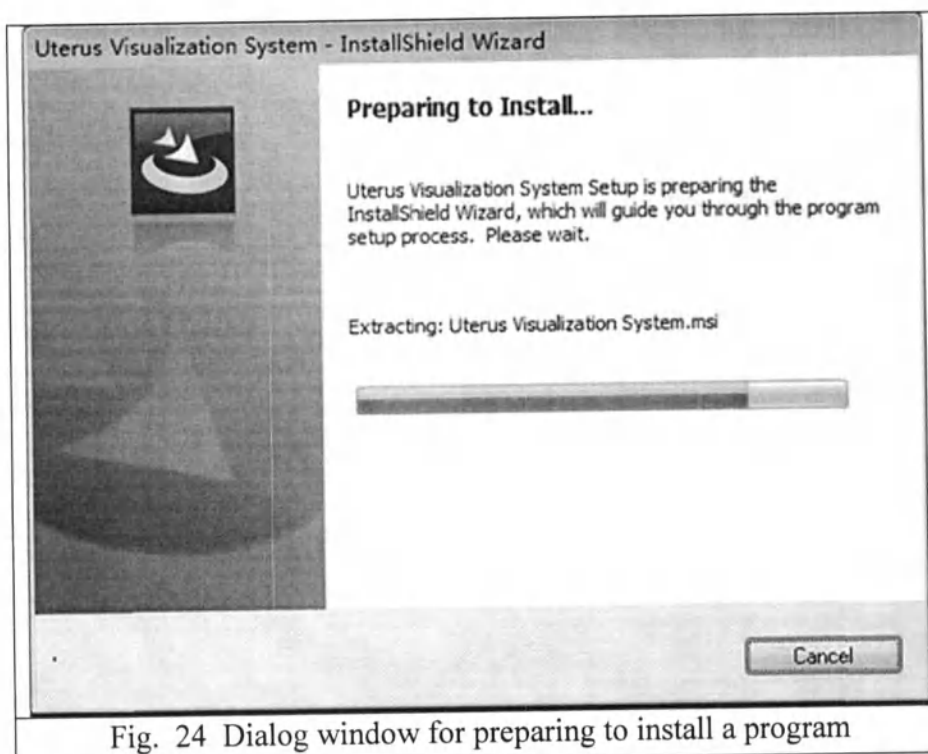

Fig. 24 Dialog window for preparing to install a program
2) Press icon  setup.exe , then a dialog window for preparing to installation will be displayed as shown in Figure 24.